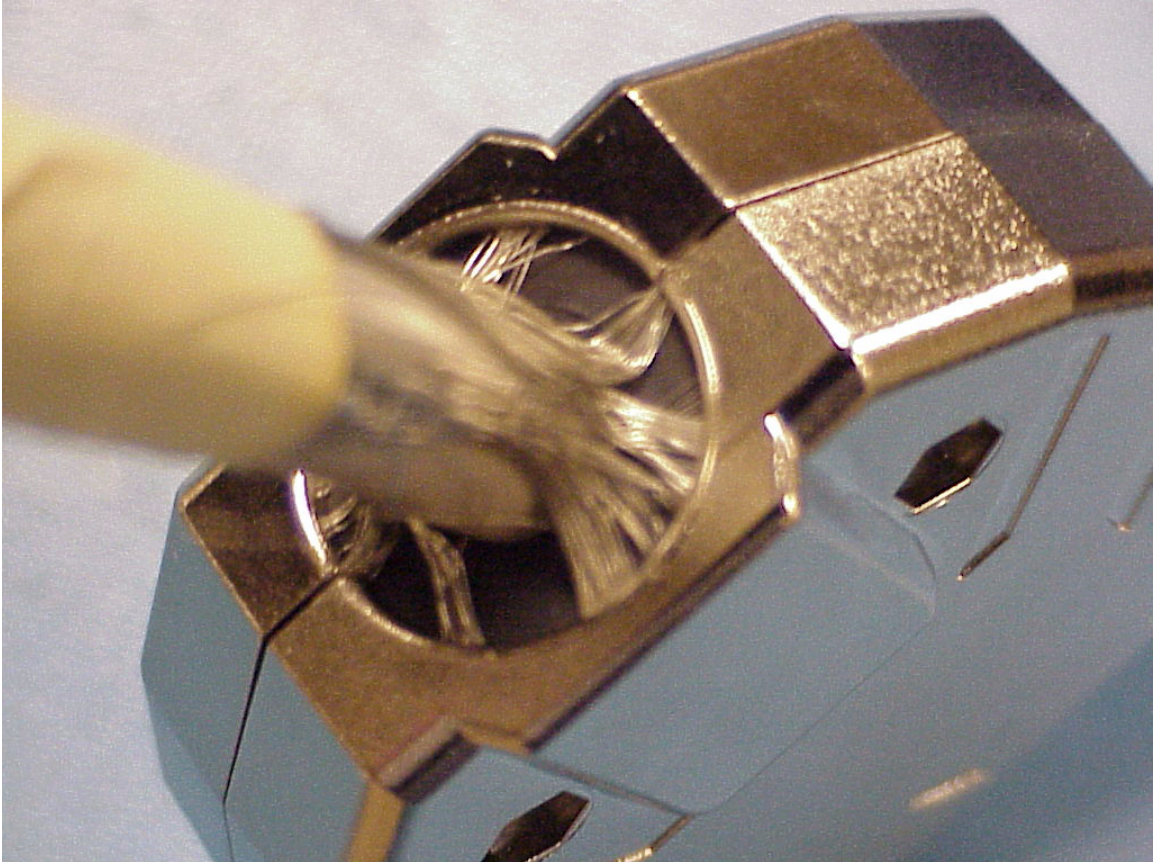

Figure 14. Installing the Second Half of the Metal Cover
9. Place the second half of the metal cover on top of the cable and connector to enclose the grommet and braid. (Figure 14.)